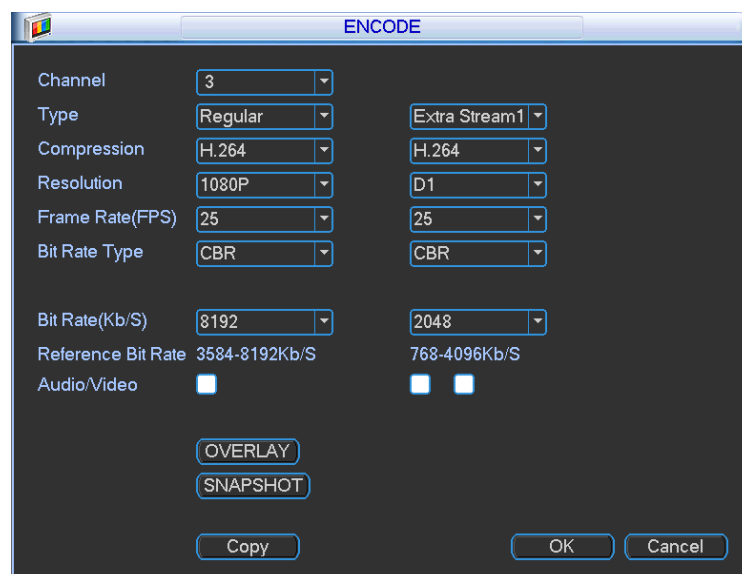

Figure 5-26
Encode setting includes the following items. See Figure 5-26.
- ✧ Copy: After you complete the setup, you can click Copy button to copy current setup to other channel(s). You can see an interface is shown as in Figure 5-28. You can see current channel number is grey. Please check the number to select the channel or you can check the box ALL. Please click the OK button in Figure 5-28 and Figure 5-26 respectively to complete the setup. Please note, once you check the All box, you set same encode setup for all channels. Audio/video enable box, overlay button and the copy button is shield. See Figure 5-29.